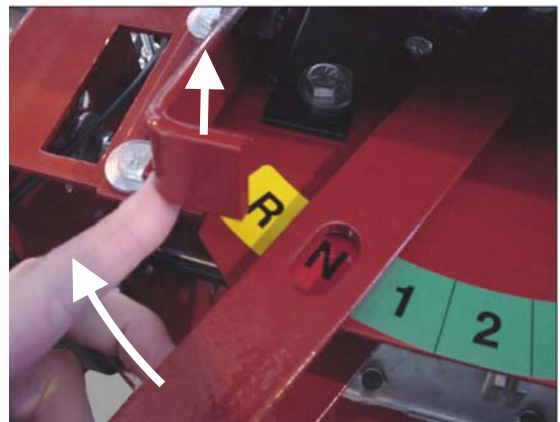

FIGURE 3.8
2. **To engage transmission in reverse**, lift up on reverse lockout lever, and move transmission shift lever from the neutral ('N') position into reverse ('R') gear. See Figure 3.8.